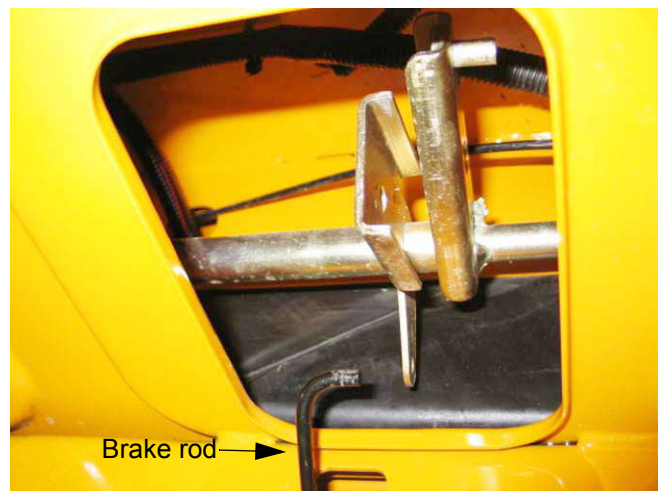

Figure 14.12
14.12. Slide the concentric brake cross shaft to the right allowing the brake rods to come out of the hole in the shaft. See Figure 14.12.